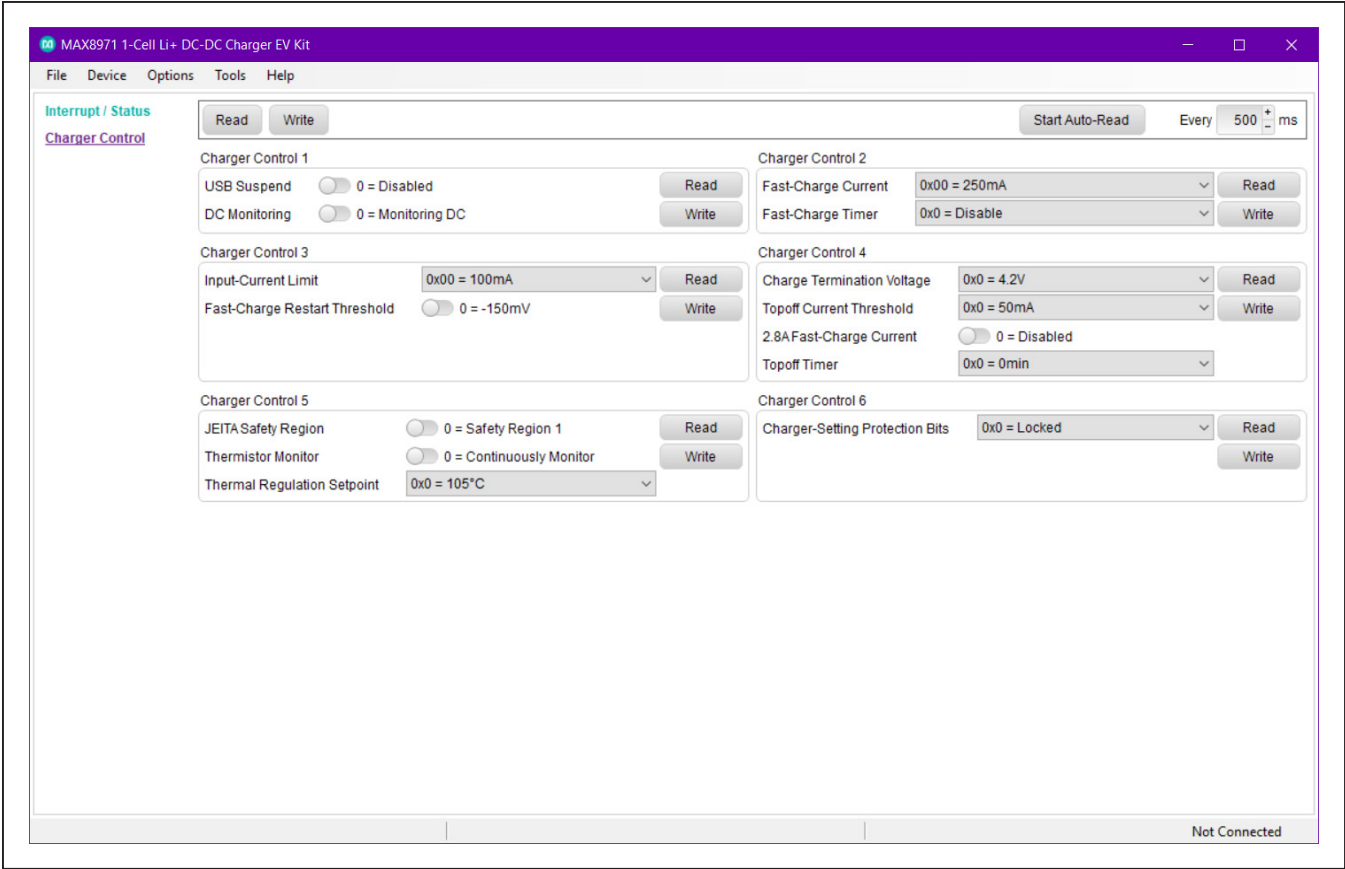

Figure 4. MAX8971 GUI Charger Control Display
- Battery or simulated battery (Figure 4)